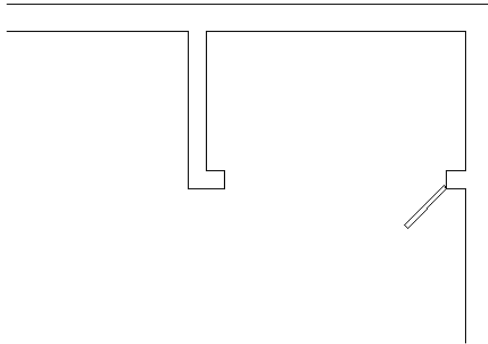

FIGURE 4.74: The first closet door panel is rotated.
7. Type $-45\downarrow$. The door rotates 45° (see Figure 4.74), and the ROTATE command ends.